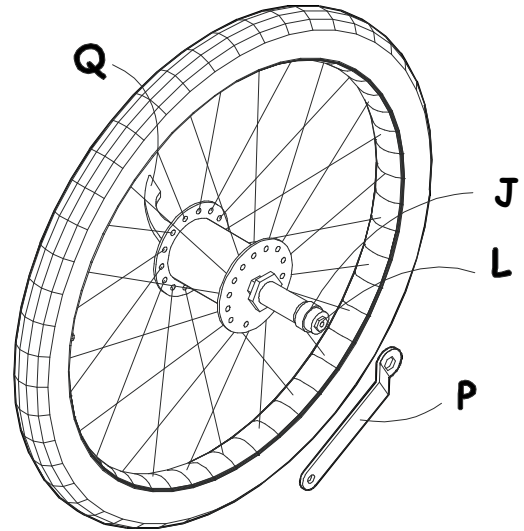

FIG. 10
- Now and then it is necessary to adjust the axle so that it clamps down correctly. Simply hold the small nyloc nut **L** with a 8mm wrench (provided) **P** or a pair of needle nose pliers and turn the cam lever **Q** on the opposite end of the skewer until the swedge cap and the shank begin to spread the split ring **J**. Be sure to have the cam lever **Q** in the closed position while turning it. (This will be the position it is shown in FIG. 10).